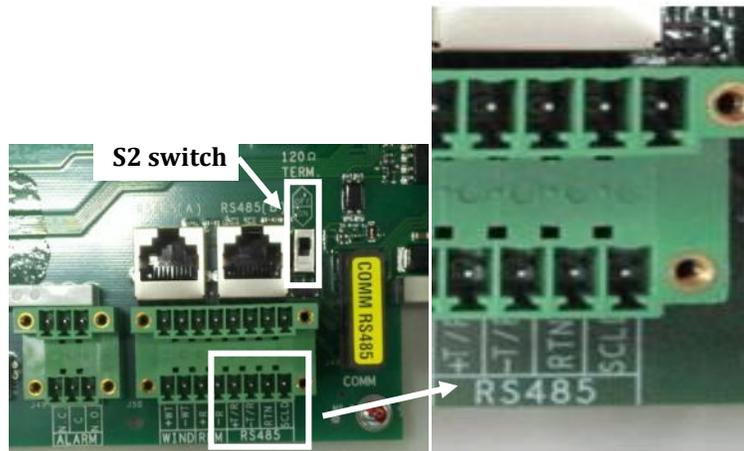

Figure 3.09 - Standard RS485 connection
- Refer to Figure 3.09. Locate the terminals for the alarm and monitoring connections within the chassis.
- b). If using standard multi-wire cable (e.g., Belden 3106A) locate the mating connector (hardware bag) and connect the three RS-485 leads as shown in Figure 3.09. Refer to Part 4: Operations for details to set RS485 address.